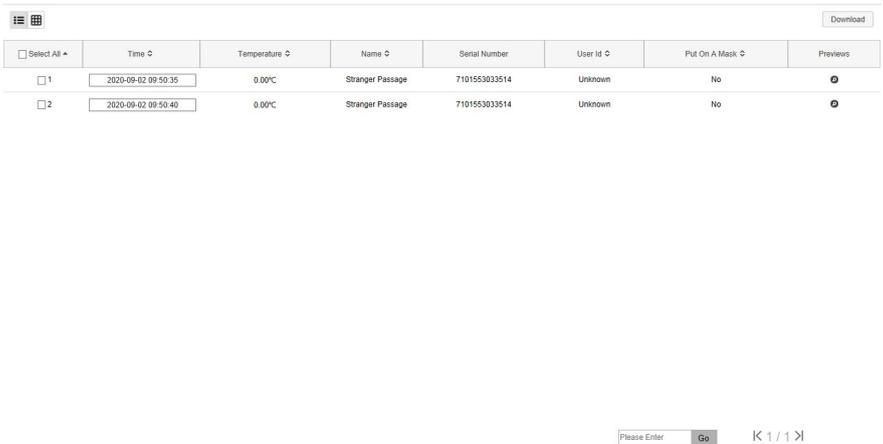

Figure 6-3
Step 3: Click "Go", the searched image is displayed on the right side of the interface, as shown in Figure 6-3.